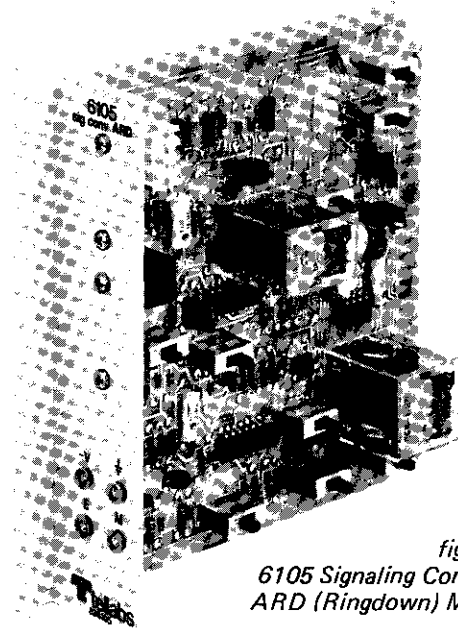

figure 1.
1.01 The 6105 Signaling Converter ARD (ringdown) module (figure 1) provides conversion between E&M facility-side signaling and any of several modes of terminal-side automatic or manual ringdown signaling. These modes include 30-second-timed, 2-second-burst, and calling-party-controlled (CPC) automatic ringdown operation and 30-second-timed or coded ringing in either ac or dc manual ringdown operation.